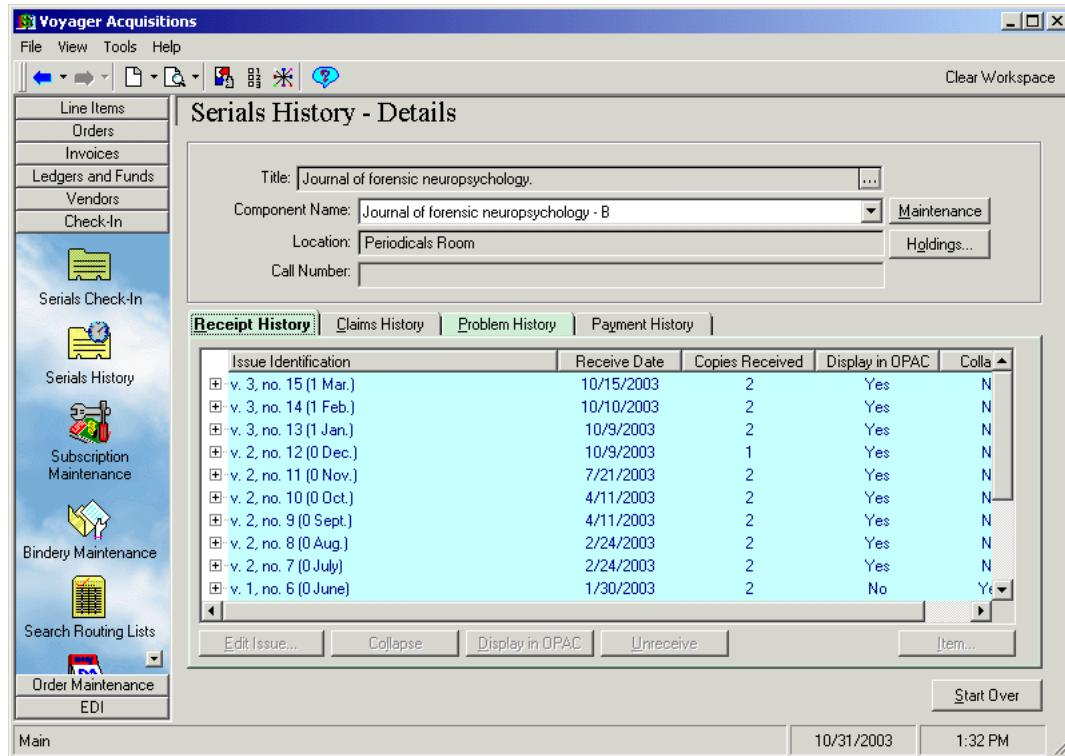

Figure 13-9. Serials History workspace - ellipsis displayed beside the Title field
- The ellipsis button beside the Title field at the top of the **Serials History** workspace (see Figure 13-9). There are numerous ways to display the **Serials History** workspace. See Serials History Information on page 9-28 for more information.